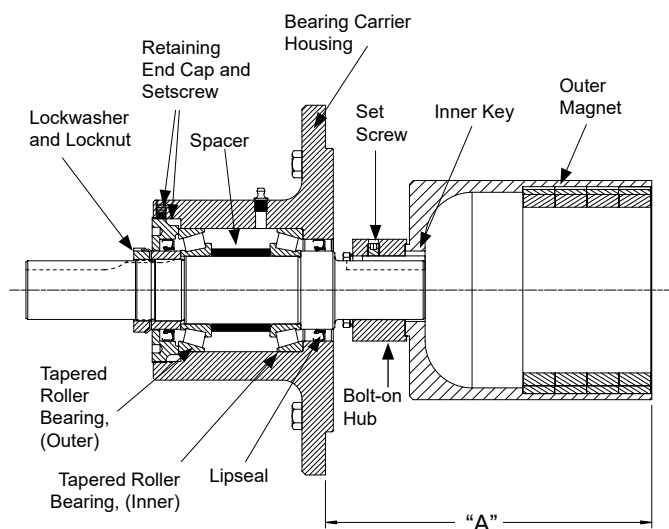

FIGURE 24
Depending on the condition of the bearings, either replace or repack existing bearings by cleaning and packing with multi-purpose NLGI # 2 grease. Replace the lip seals if necessary. See Figure 24, page 13 for lipseal orientation.
6. Install the inboard drive key, then slide the magnet onto the shaft. Locate the outer magnet per dimension "A" listed below. Tighten the two setscrews to lock into proper position. See Figure 24, page 13.